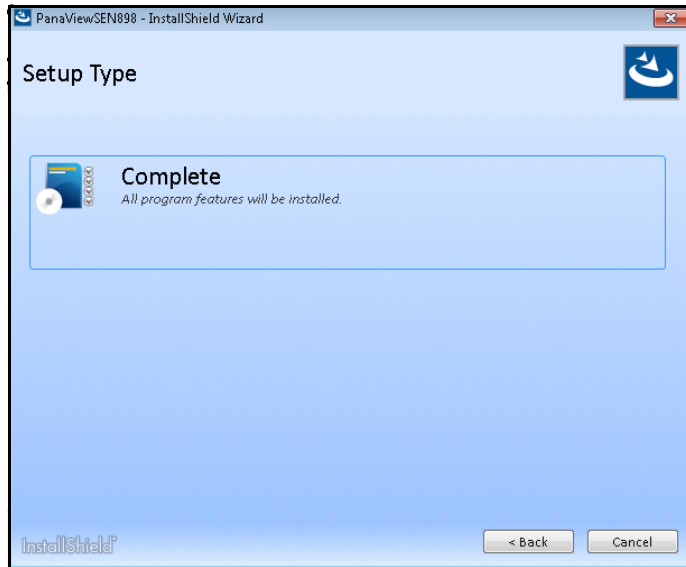
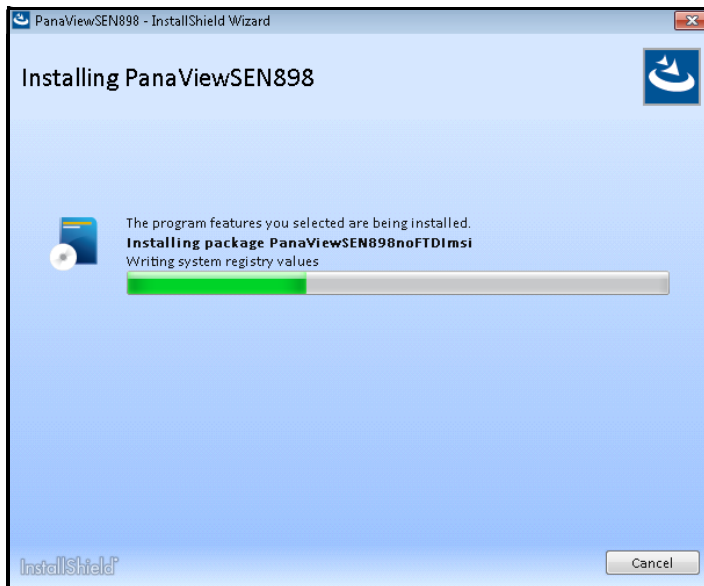

Figure 4: Setup Type Screen
Figure 5: Installing Panaview Screen
4. Choose [Complete] to install all program features (see *Figure 4* below). The screen shown in *Figure 5* appears and confirms the start of Panaview Installation. Refer to “The [Back] and [Cancel] Buttons” on page 5 to know the specific function of them.